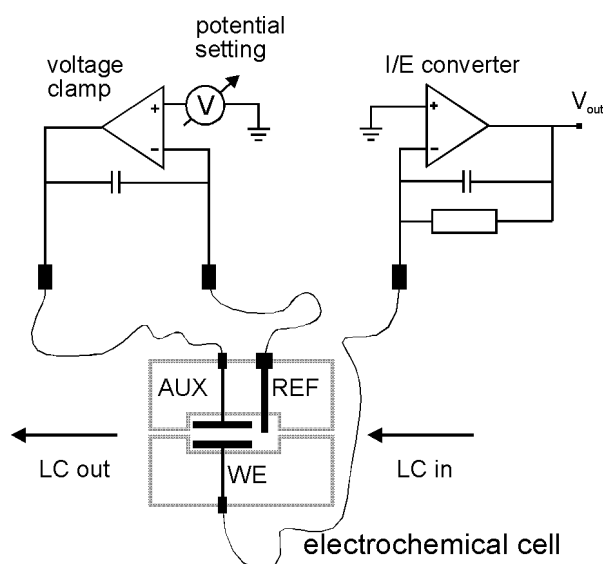

Fig. 2. Schematic representation of an electrochemical cell with a three-electrode configuration.
In the FlexCell a three-electrode configuration is used (Fig. 2). The working potential is set between the working electrode (WE) and the auxiliary electrode (AUX). The auxiliary electrode is kept at the same precisely defined potential as the reference electrode (REF) by means of the so-called voltage clamp. This is an electronic feedback circuit that compensates for polarization effects at the electrodes. At the working electrode, which is kept at virtual